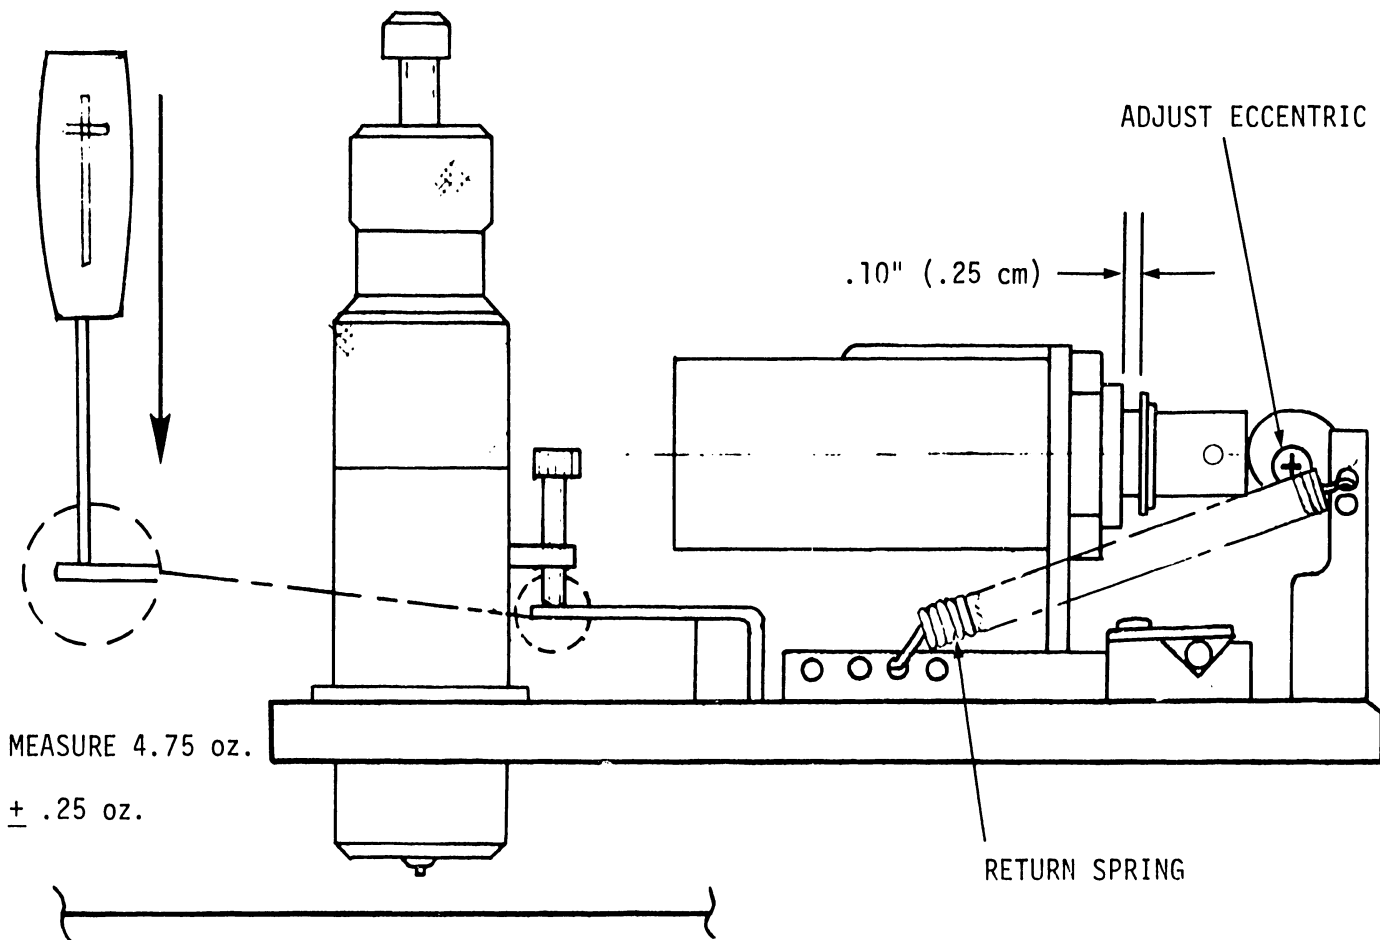

FIGURE 6
5.6 PEN AND SOLENOID ADJUSTMENT (See Figure 6)